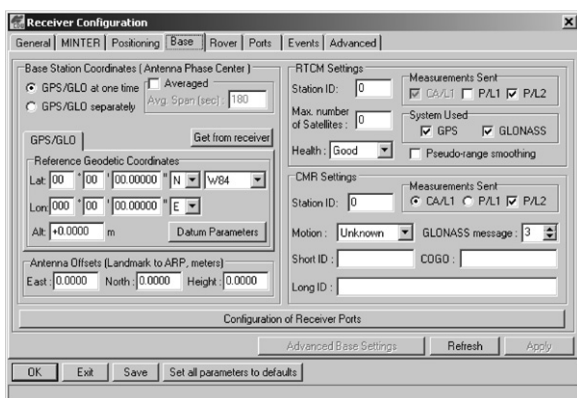

Figure 3-11. Base Tab Configuration
11. Select the **Base** tab and set the following parameters (Figure 3-11 on page 3-19):